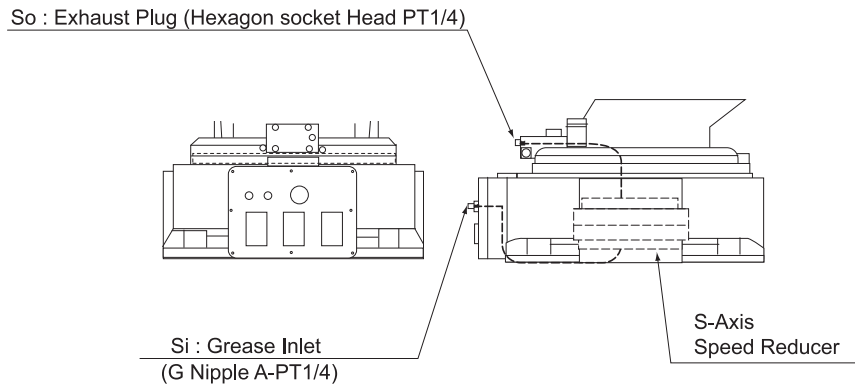

Fig. 22 S-Axis Speed Reducer Diagram
■ Grease Replenishment (Refer to " Fig. 22 S-Axis Speed Reducer Diagram ".)
■ Grease Replacement (Refer to " Fig. 22 S-Axis Speed Reducer Diagram ".)